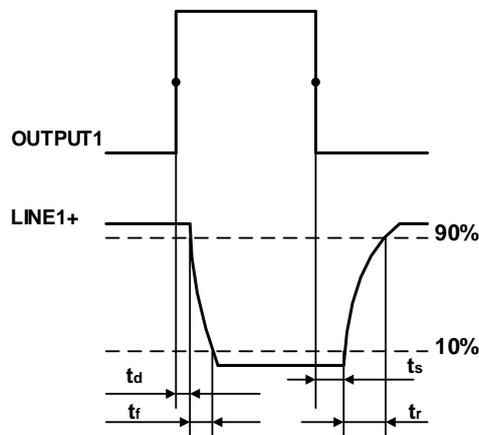

Figure 7-10 Parameter of opto-isolated output circuit
- Rising time delay = t_d+t_f : $<50\mu s$ (0°C~45°C) (parameter description is shown in Figure 7-10)
- Falling time delay = t_s+t_r : $<50\mu s$ (0°C~45°C) (parameter description is shown in Figure 7-10)